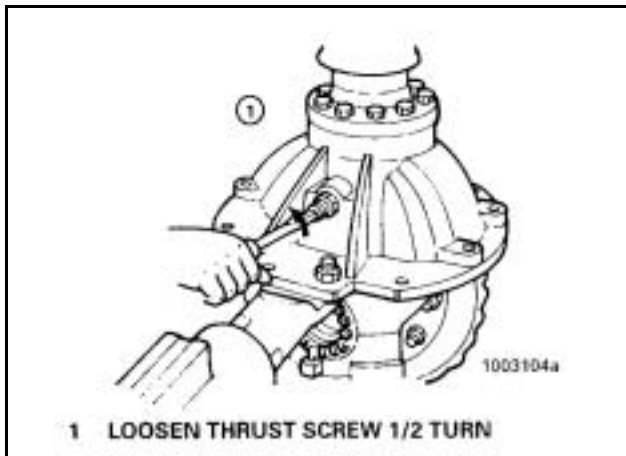

Figure 125
3. Loosen the thrust screw* ½ turn, 180 degrees. **Figure 125.**